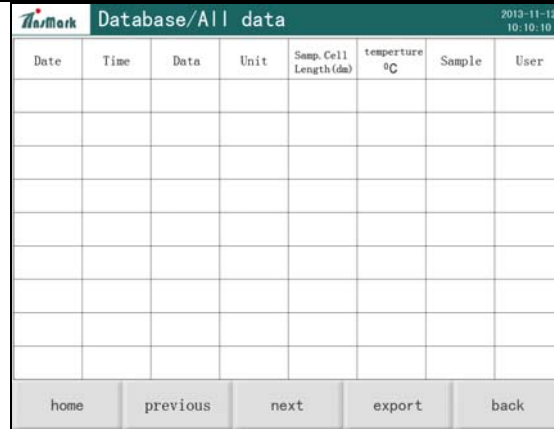

Fig7.2 Display contents of the Database
- 2) Press “previous” or “next” to view the data in previous or next page, Fig 7.2.
Following Fig7.2, press the “export” key, all the data will be exported to U disk. Make sure that USB disk to be connected to the instrument before exporting data. Enter file name then tap “OK” to export data.